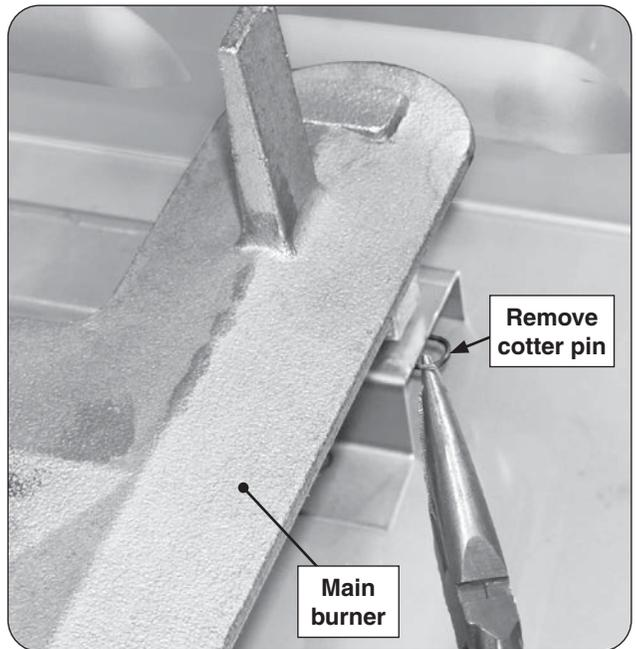

Fig. 41-1 Main burner removal
2. Locate and remove the cotter pin from the left or right rear burner anchoring peg by pulling it straight out of the cotter pin hole using fingers or needle-nose pliers. See Fig. 41-1.